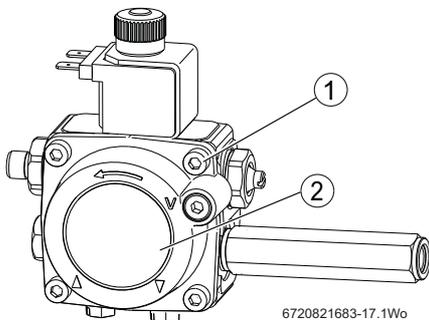

Fig. 74 Pump filter access
- ▶ Refer to figure 74 and remove the oil pump internal filter, clean in Kerosene and reassemble.